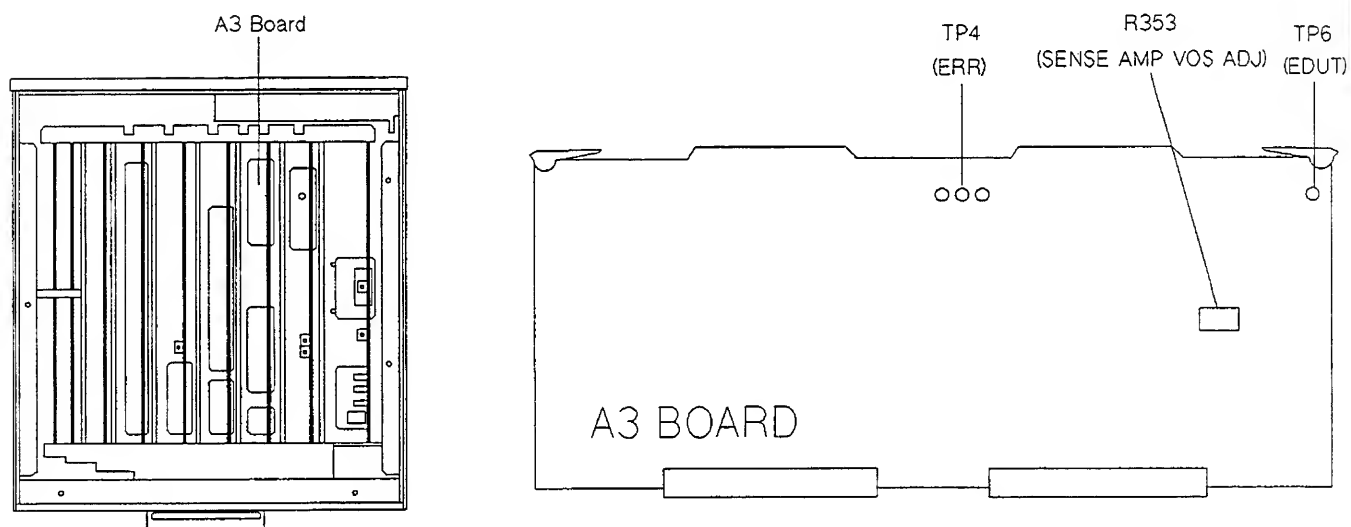

Figure 2-9. Sense Amplifier DC Offset Adjustment Location
5. Connect the multimeter Lo input to A3TP4 (**ERR**). Then connect the multimeter Hi input to A3TP6 (**EDUT**). Figure 2-9 shows the location of TP4 and TP6.
6. Adjust A3R353 (**SENSE AMP VOS ADJ**), until the multimeter reads 0 ± 10 mV. Figure 2-9 shows the location of A3R353.